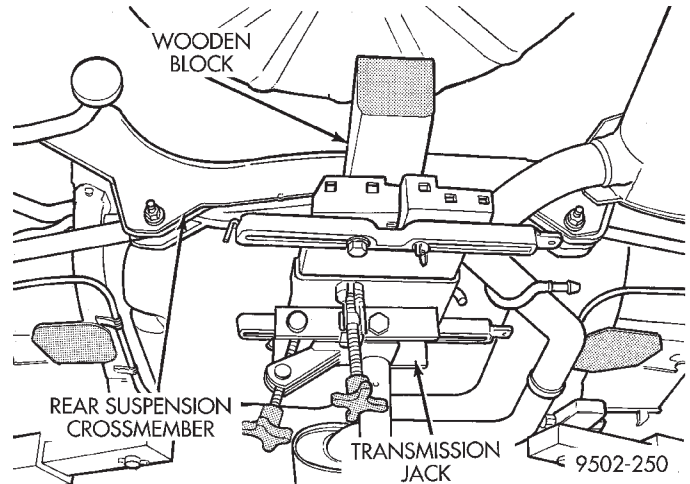

Fig. 37 Lowering And Supporting Rear Suspension Crossmember
(6) Position a transmission jack and wooden block under the center of the rear suspension crossmember to support and lower crossmember during removal (Fig. 37).